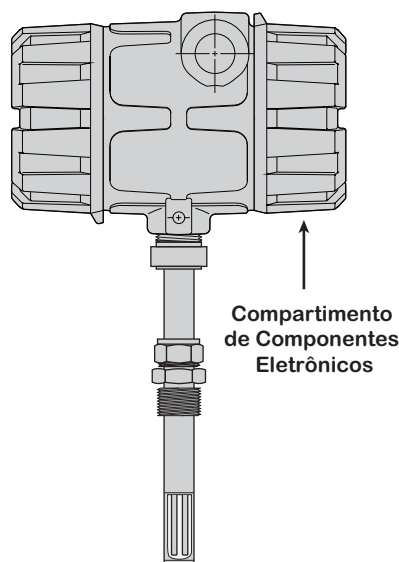

Figura 15
3. Remova a tampa — consulte a Figura 15.